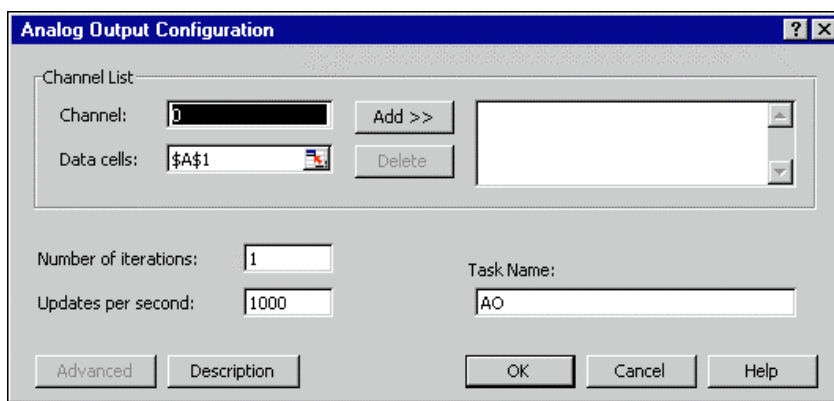

Figure 2-5. Analog Output Configuration Dialog Box
1. In the DAQ Tasks dialog box, click on the **AO** button to display the Analog Output Configuration dialog box, as shown in Figure 2-5.